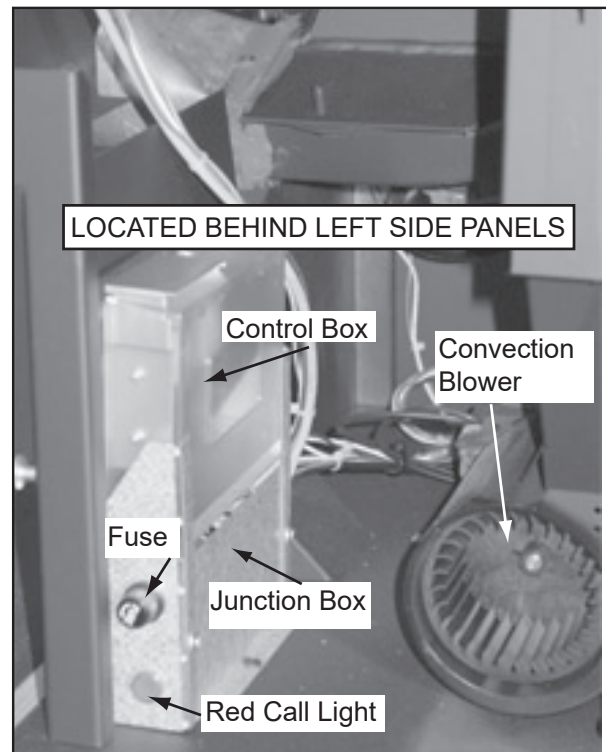

Figure 11.3
5. Look through the hole in the left lower side panel and you will see the red call light on the control box will be on (**Figure 11.3**). This indicates the thermostat is calling for heat.
**NOTE:** 2 AA batteries are included with the thermostat and must be installed before the appliance can be operated (**see Figure 11.3 on page 11**).